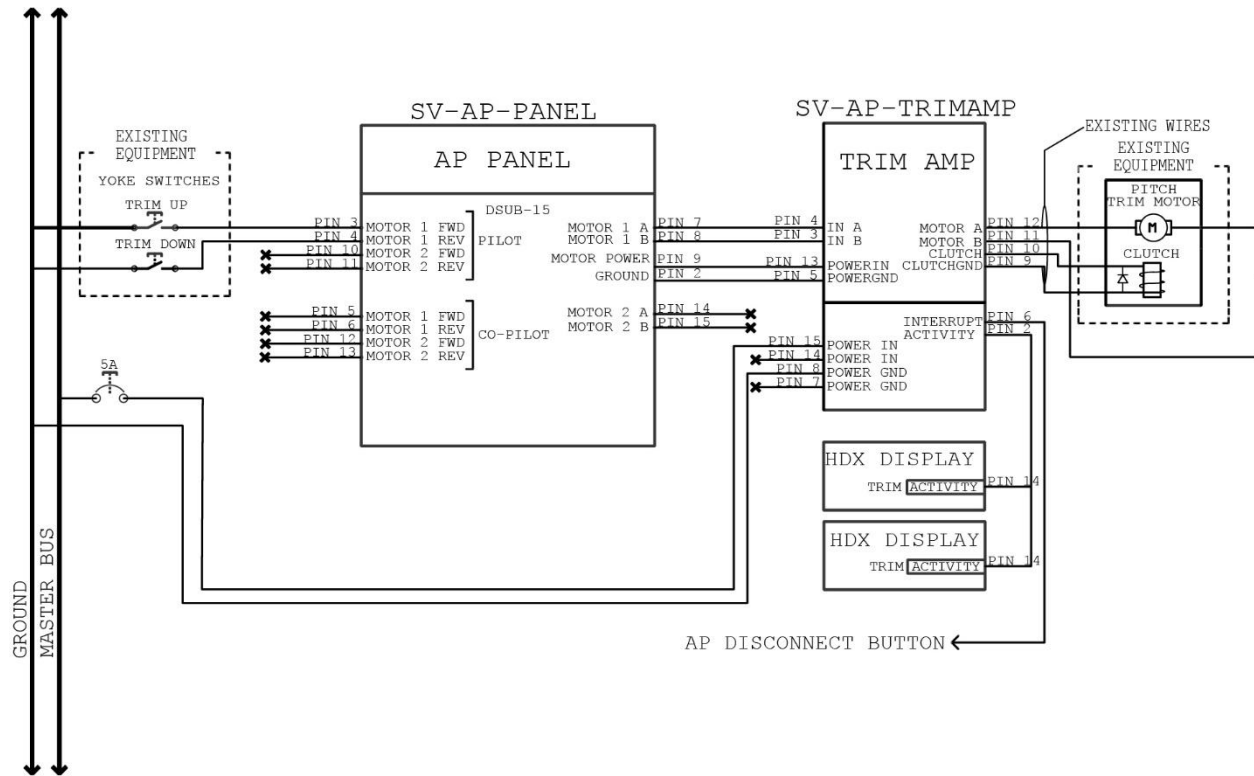

Figure 127: SV-AP-TRIMAMP Electrical Installation
3. Route SV-AP-TRIMAMP harness as follows (also see Figure 127):
5. Use insulated connectors to connect SV-AP-TRIMAMP harness as follows (also see Figure 127):